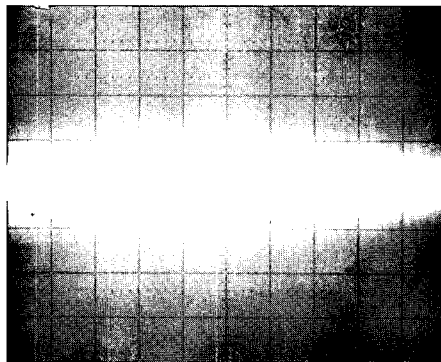

Figure 5-7. Waveform at A13TP2.
- d. Adjust "OFS-2" potentiometer A13R2 until dc level of displayed waveform is within $0mV \pm 1mV$. Refer to Figure 5-7 which shows well adjusted waveform.